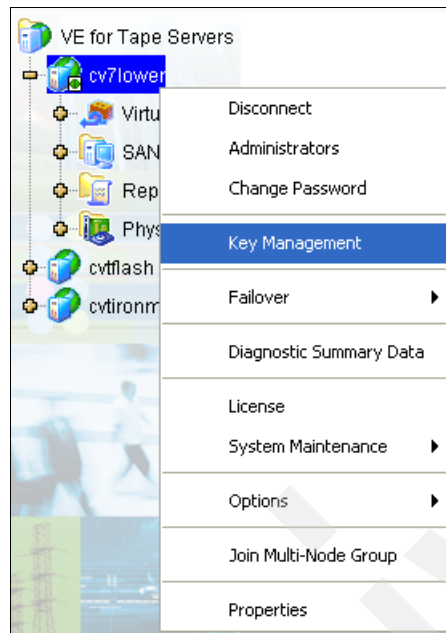

Figure 12-71 Starting the key management process
1. Right-click the TS7530 Server name and select **Key Management** in the navigation tree, as shown in Figure 12-71.